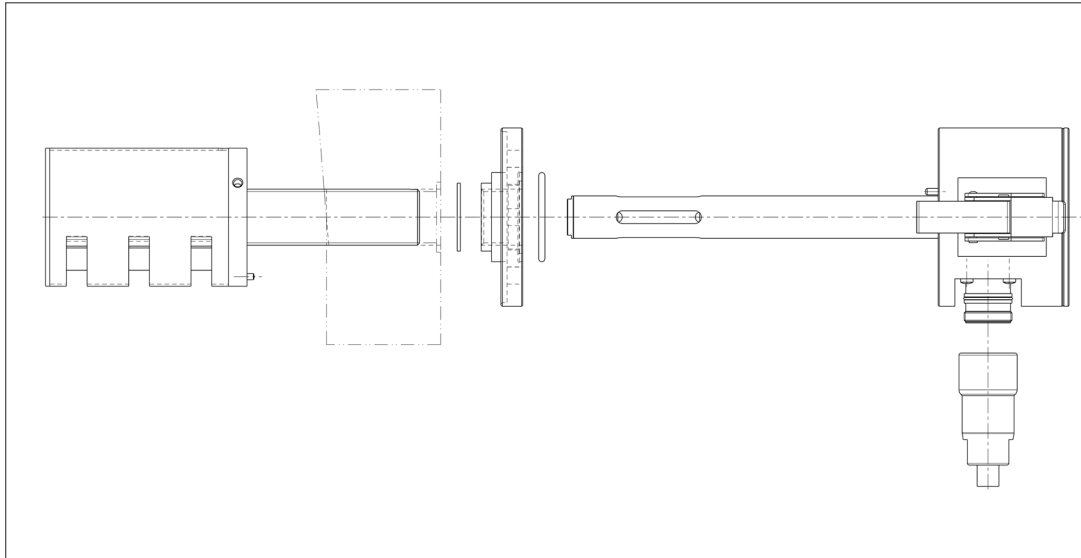

Fig. 5.2 Installation Step 1
- Fig. 5.2 Installation Step 1